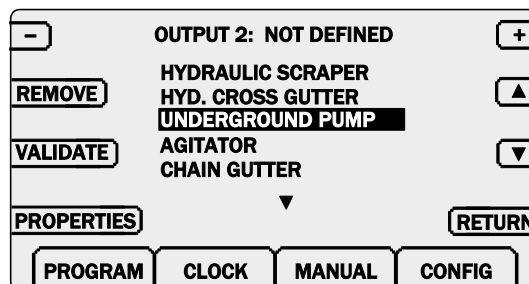

Figure 3 : Type selection screen
- 4 Choose the type of output by scrolling the list with the ▲ and ▼ keys (Figure 3) and press VALIDATE. Other outputs may also be programmed by changing the output number with the +/- keys. If your type of machinery is not in the list, refer to section 3 (page 7).
If your type of machinery is not present in the list (see Figure 3, page 4), you may create up to two new types by following these steps. More than one output can be configured to use the new type. Note that it is normally not necessary to create new types for most systems.
- 1 Follow steps 1 to 3 from section 2 (page 4). From the type selection screen (Figure 3), choose one of two NOT DEFINED outputs and press the PROPERTIES key.